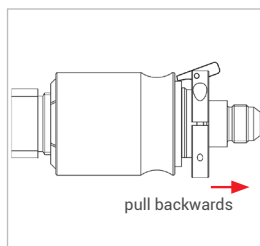

Figure 6
- ▶ Gently pull on the lower part (Pos. 3) (red arrow *Figure 6*) of the connector in the opposite direction of connection to ensure that the connector is properly connected.